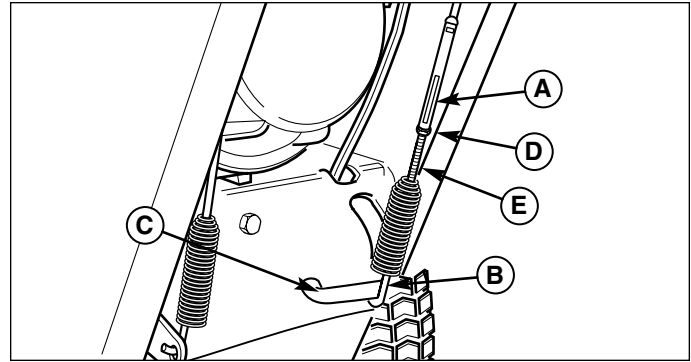

Figure 19. Auger Drive Adjustment
1. With the drive lever released, the hook (B, Figure 19) should barely touch the lever (C) without raising it. There can be a maximum 1/32" clearance as shown.
2. To adjust, loosen nut (D, Figure 19) by holding the adjusting flats (A) and turning nut (D). Turn adjustment flats and hold screw. The adjustment screw is a phillips screw and the head can be held or turned by inserting a screwdriver through the spring.
3. Hold adjusting flats (A) and tighten nut (D).